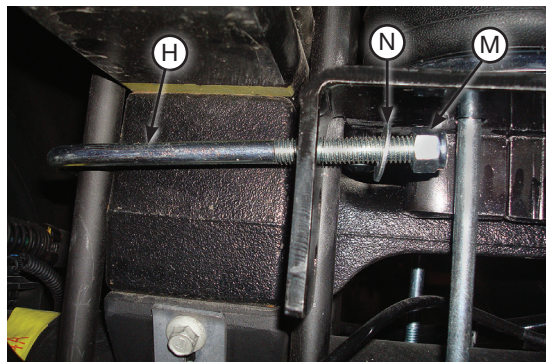

fig. D.15
2. Install the U-bolts (H) around the jounce bumper strike plate/spacer blocks and insert through the topmost holes in the lower bracket main plates (Fig. D.15). Cap with the 3/8" flat washers (N) and 3/8"-16 nylon lock nuts (M). Snug bolts evenly, just enough to hold the lower bracket main plate flush against the stock U-bolts.